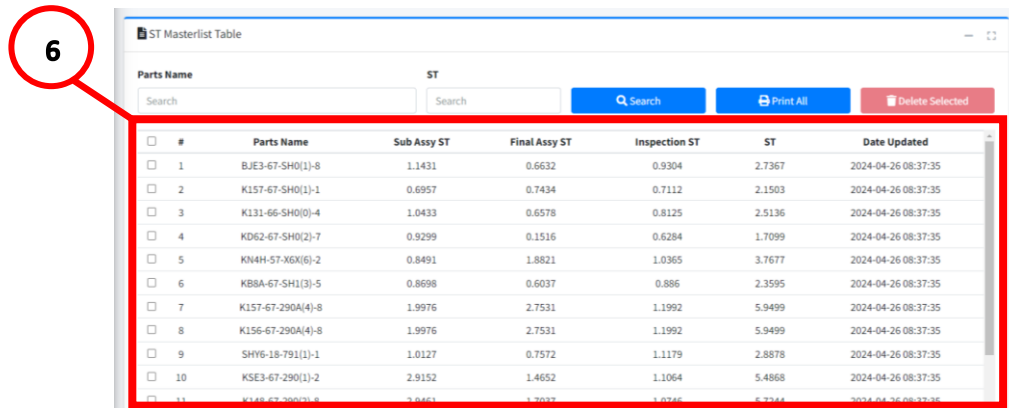

Figure 1.5
6. Click **Any Row** from the table that needs update or deletion. (See Figure 1.5).